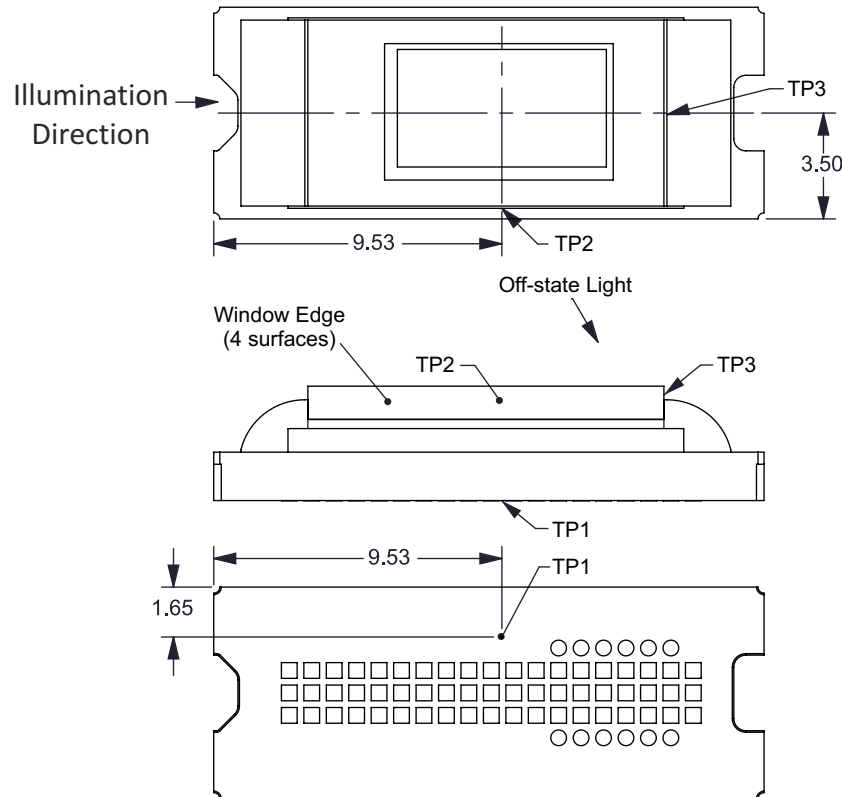

图 7-1. DMD Thermal Test Points
- T_{CERAMIC} = Measured ceramic temperature (°C), TP1 location in 图 7-1
- Q_{ARRAY} = Total DMD power; electrical plus absorbed (calculated) (W)
- $Q_{\text{ELECTRICAL}}$ = Nominal DMD electrical power dissipation (W)